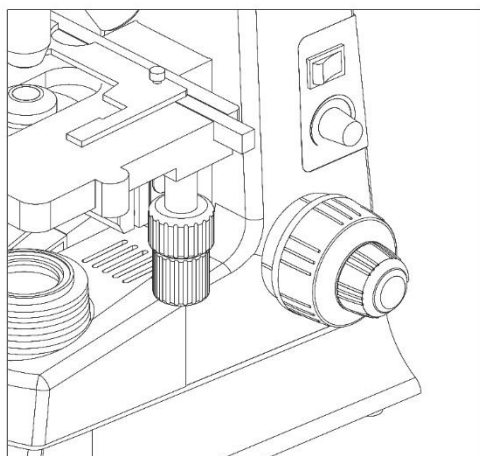
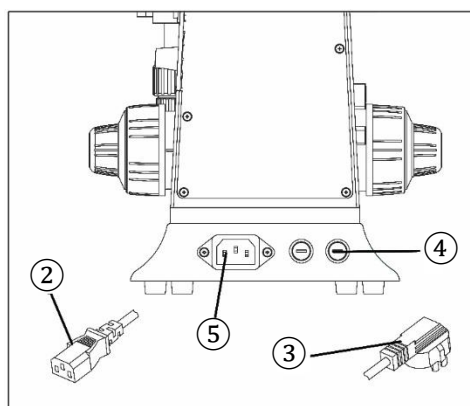

Fig. 9
Fig. 10
3.2.6. Connecting the power cord (Fig. 9, Fig. 10)
3.2.7. Replacing the fuse (Fig. 9, Fig. 10)